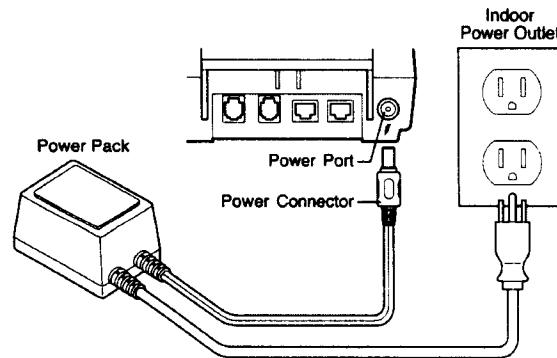

Figure 14 OMNI 3200 Power Pack Connection
1. Insert the barrel-shaped connector on the end of one power pack cable into the round power port on the back panel of the terminal (see Figure 14). The power port is identified by the “electrical power” icon, shown to the right.